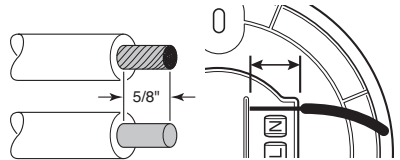

Figure 3
3. Strip 5/8 in. of insulation from one end of the solid-core wire (see Figure 3).
6. To attach the solid-core pigtail to the mounting plate, strip 5/8 in. of insulation from the other end of the solid-core wire. Use the wire length measuring guide on the back of the mounting plate to ensure the correct wire length (see Figure 3).